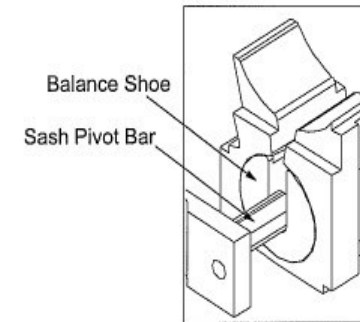

Figure 3
- * Pivot bar on sash fits into pivot shoe in main frame jamb (See figure 3).